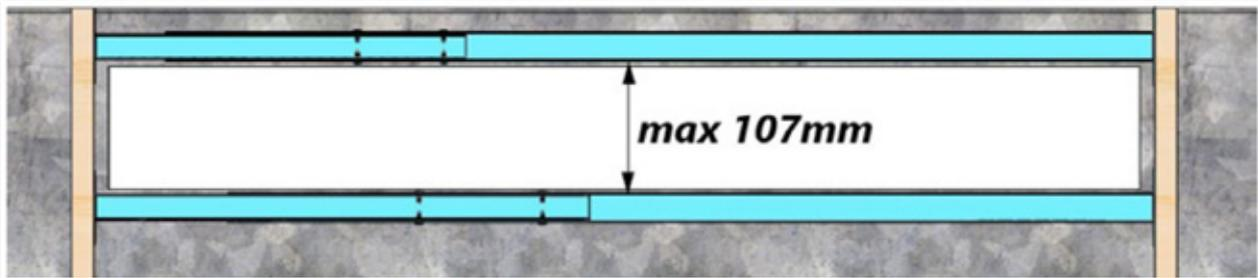
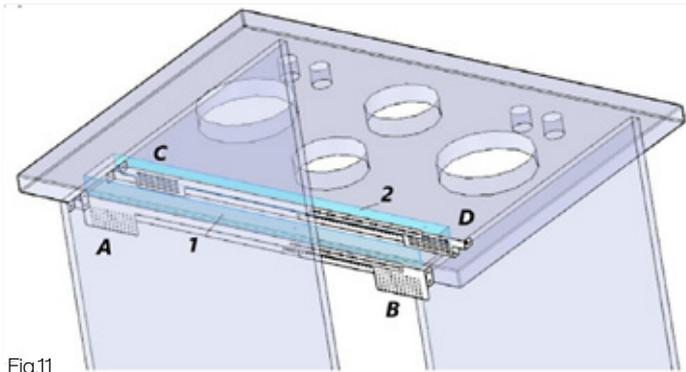
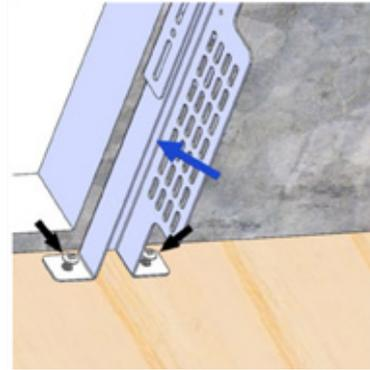

Fig.10
Fig.11
Fig.12
6. Line up the edges of the of the two sections of frame with the benchtop cutout and secure in place as per below - see Fig.10, Fig.11 & Fig.12. *Note: The screws put in place in (Fig.9) cannot sit inside the width of the benchtop cutout as they will obstruct the downdraft body when lowered into place.*
7. These brackets are fixed in between the horizontal length brackets and are put into position by inserting one at either end ensuring that the slotted holes and the round holes correspond with the horizontal bracket allowances (Fig.12). Slotted holes of parts E & F will be at the rear side (furthest from cooktop) and the round holes to the front side (nearest to cooktop) (Fig.15).